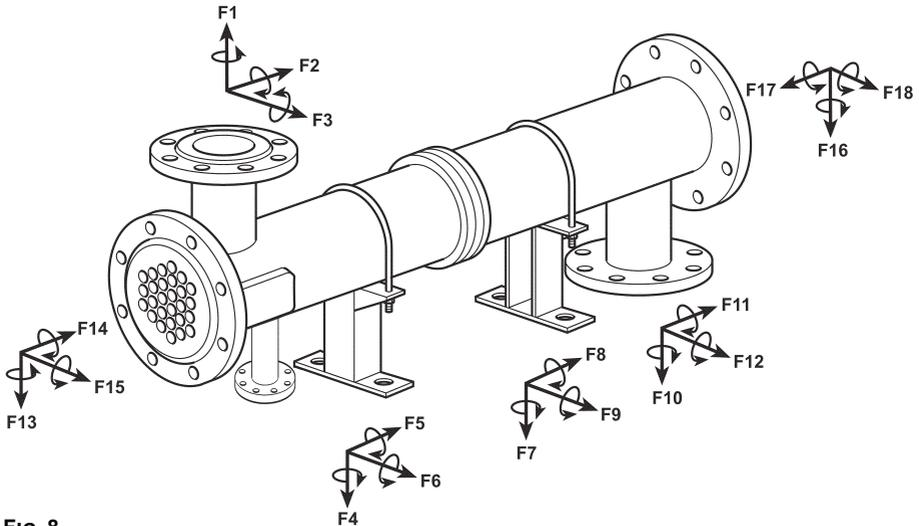

FIG. 8
- 4.10** Figure 8 illustrates the possible tubing connections. It is also acceptable to use large bended tubes or flexible connections.